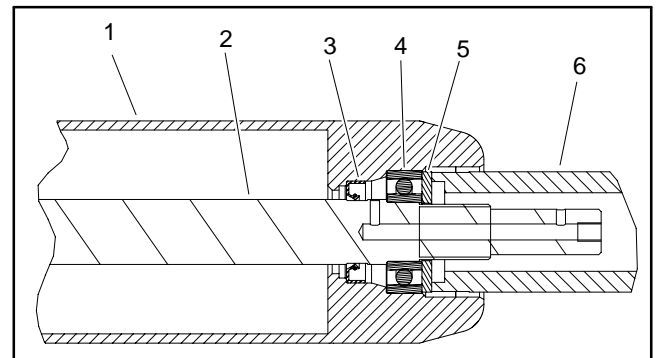

Figure 15
B. Use washer and bearing/outer seal tool (see Special Tools) with a soft face hammer to fully seat bearing (Fig. 15). After bearing installation, make sure that shaft freely rotates and that no binding is detected. If necessary, lightly tap bearing and/or shaft ends to align shaft and bearings. Remove washer from roller.